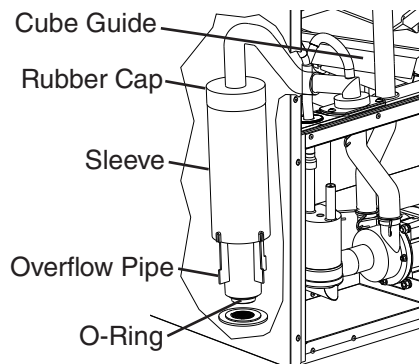

Fig. 17
14c)(2) Remove the rubber cap and sleeve covering the overflow pipe. See Fig. 17. Unscrew the overflow pipe.